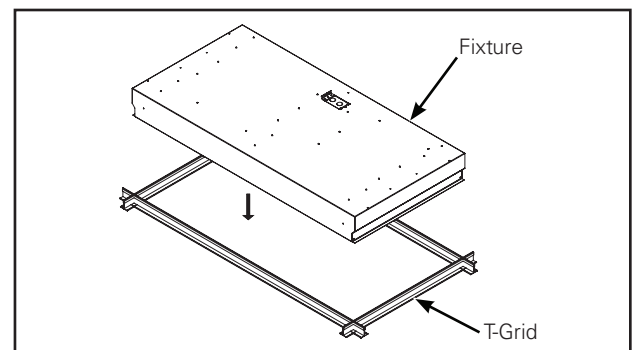

Figure 2.
3. Lay fixture in T-grid or drywall framing kit. Note, fixture is intended only for 1" through 1-1/2" T-grid. (Figure 2.)